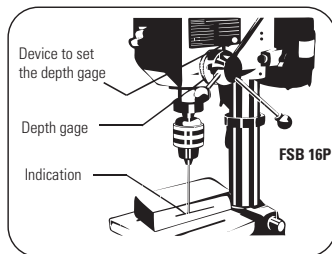

FIGURE 8.12
- Loosen the bolt/nut of the depth gage (Figure 8.12).
- The drill bit will stop at the adjusted depth level while no alteration is made on the depth gage (Fig. 8.12 and 8.13).